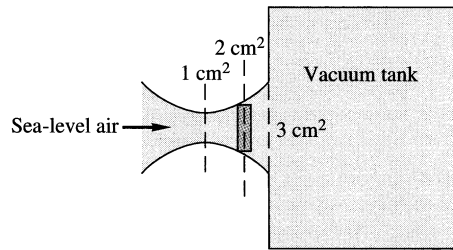

Fig. P9.63
**9.63** Sea-level standard air is sucked into a vacuum tank through a nozzle, as in Fig. P9.63. A normal shock stands where the nozzle area is  $2 \text{ cm}^2$ , as shown. Estimate (a) the pressure in the tank; and (b) the mass flow.